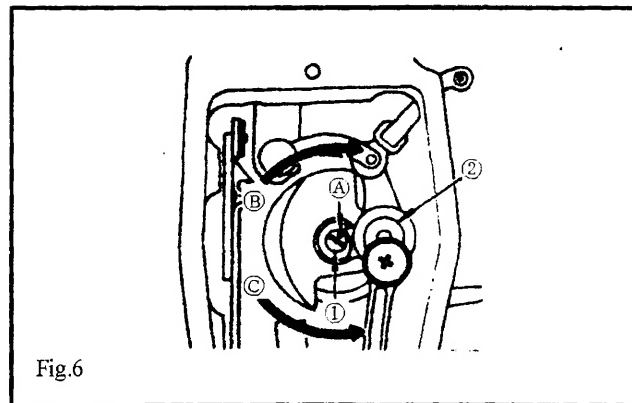

Fig.6
2. Adjusting the amount of oil supplied to the face plate parts (Fig.6)